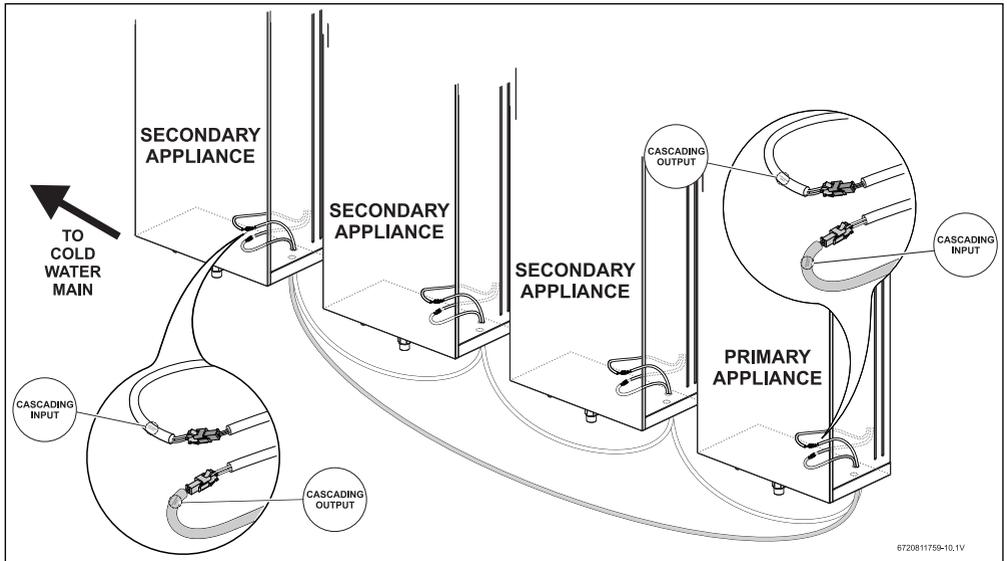

Fig. 14 Example of installation for: T9800 SE, T9800 SEO, T9900 SE
- Connect units in a row from the first to the last unit and then connect the last unit to the first one to close the ring (fig. 14).